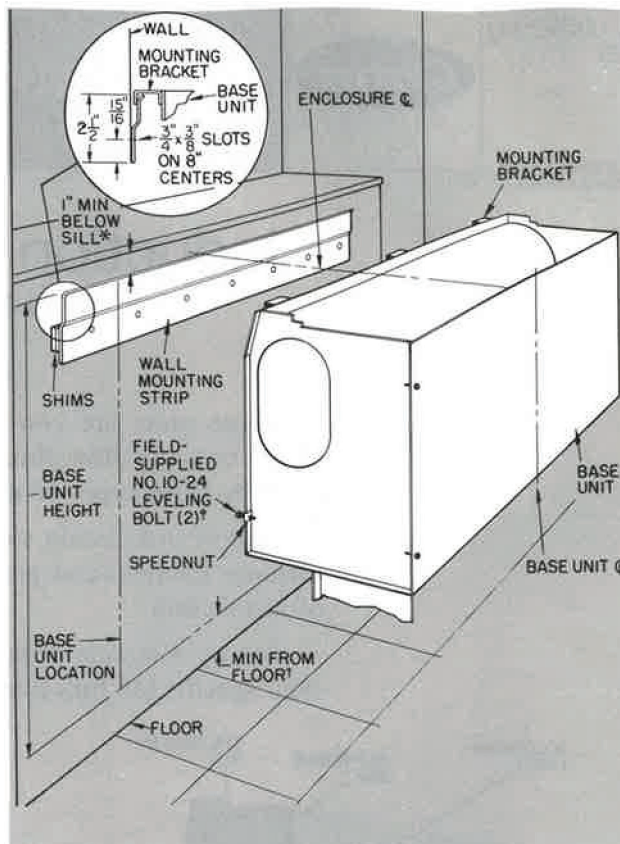

Fig. 4 — Hanging Base Unit
3. Install separate mounting strip above base unit strip for hanging 36SC or 36ST enclosures if used. See Fig. 4.